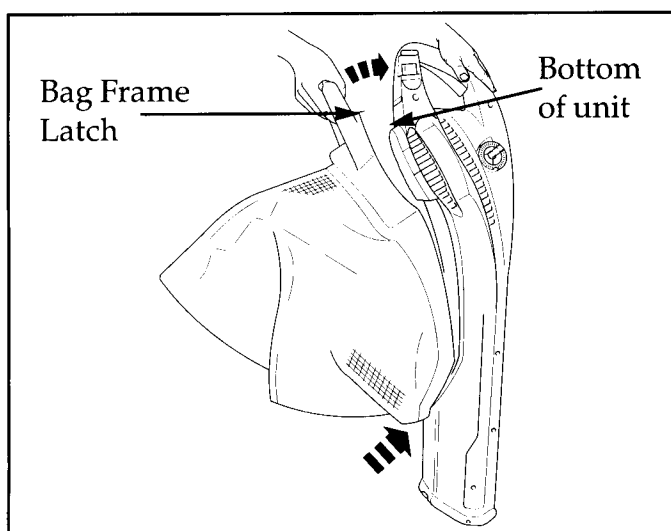

Figure 3
2. Hold the unit in an upright position, resting the bottom of the nozzle on the ground. Figure 3.
4. Lift the bag frame handle until the bag frame latch snaps into place on the bottom of the unit. Figure 3.
4. Re-fit the debris bag by holding the unit in an upright position. Figure 3.
6. Lift the bag frame handle until the bag frame latch snaps into place on the bottom of the unit. Figure 3.